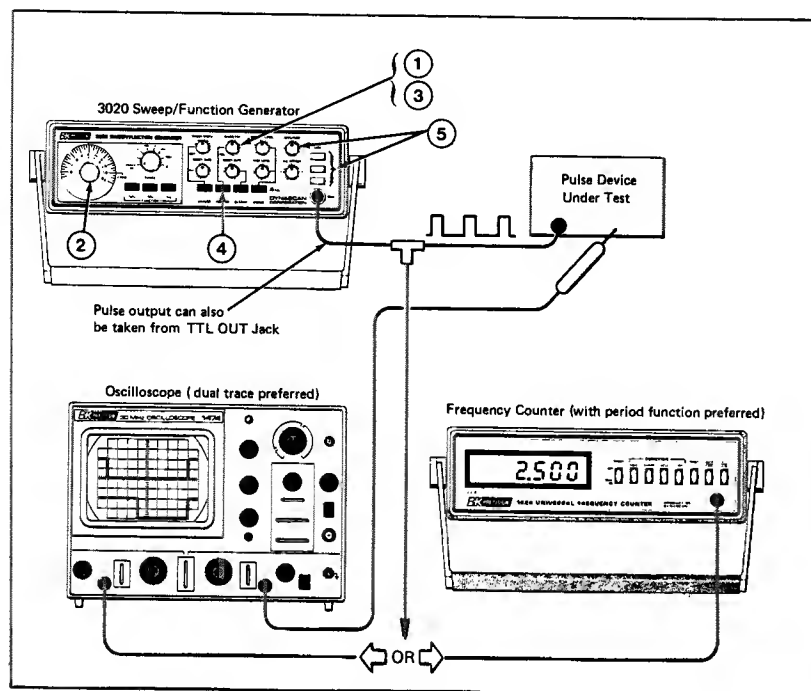

Fig. 6. Typical set-up for pulse generation.
- c. Fig. 6 and 7 give a typical example for obtaining a specific pulse waveform.
Assume that it is desired to generate a pulse waveform with a 40-microsecond pulse width and repetition rate of 2.5 kHz. The following procedure, along with Figs. 6 and 7, describe how to connect equipment, set controls, and interpret measurements to obtain this pulse waveform. Pulse waveforms of other pulse widths and repetition rates may be obtained similarly. Steps of the procedure must be performed in the sequence specified.
1. Connect equipment as shown in Fig. 6 Set the SYMMETRY control to CAL.